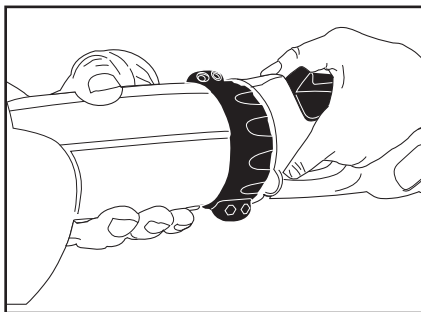

Figure 4
2. Insert the male end of the power handle interface into the female socket in the end of the tool attachment making sure that it is firmly seated. (see figure 4) The interface is keyed so that it will only go together one way. The handle and tool should go together easily. If you experience resistance in putting them together,